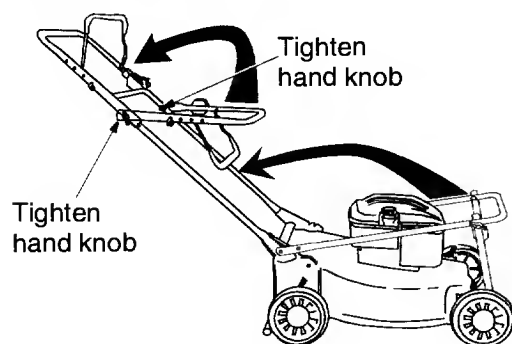

Figure 1
- Tighten the hand knobs on each side of the handle (carriage bolts must be seated properly into the handle). See Figure 1.